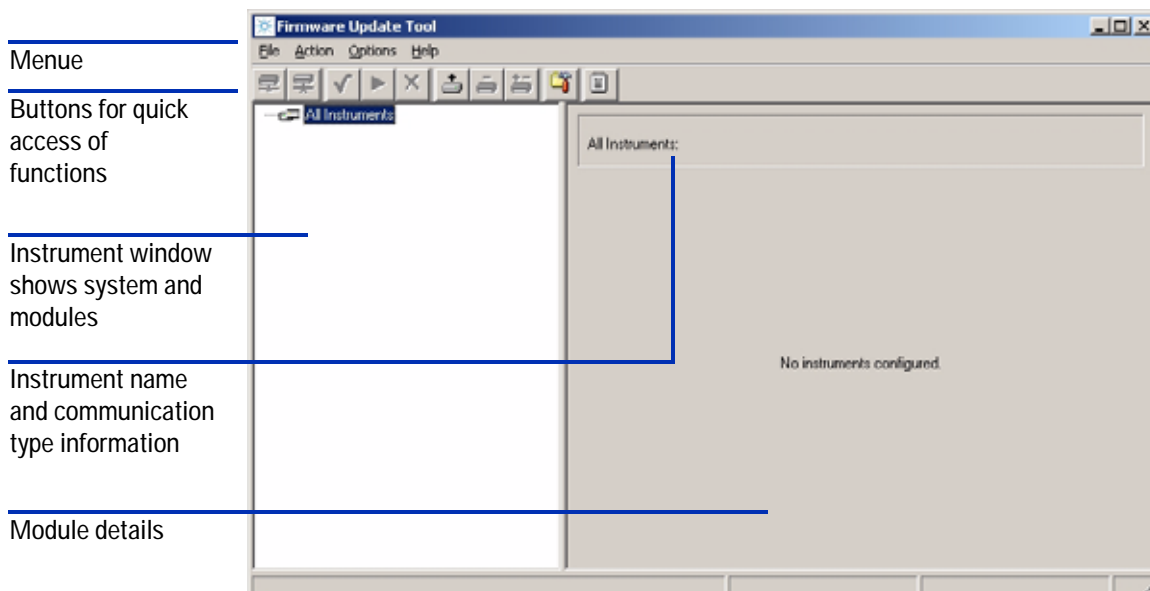

Figure 20 Start-up screen
- 1 Start the LAN/RS-232 Firmware Update Tool 2.7 via the shortcut, see “Installation of the LAN/RS-232 Firmware Update Tool” on page 42. Figure 20 shows the initial screen.